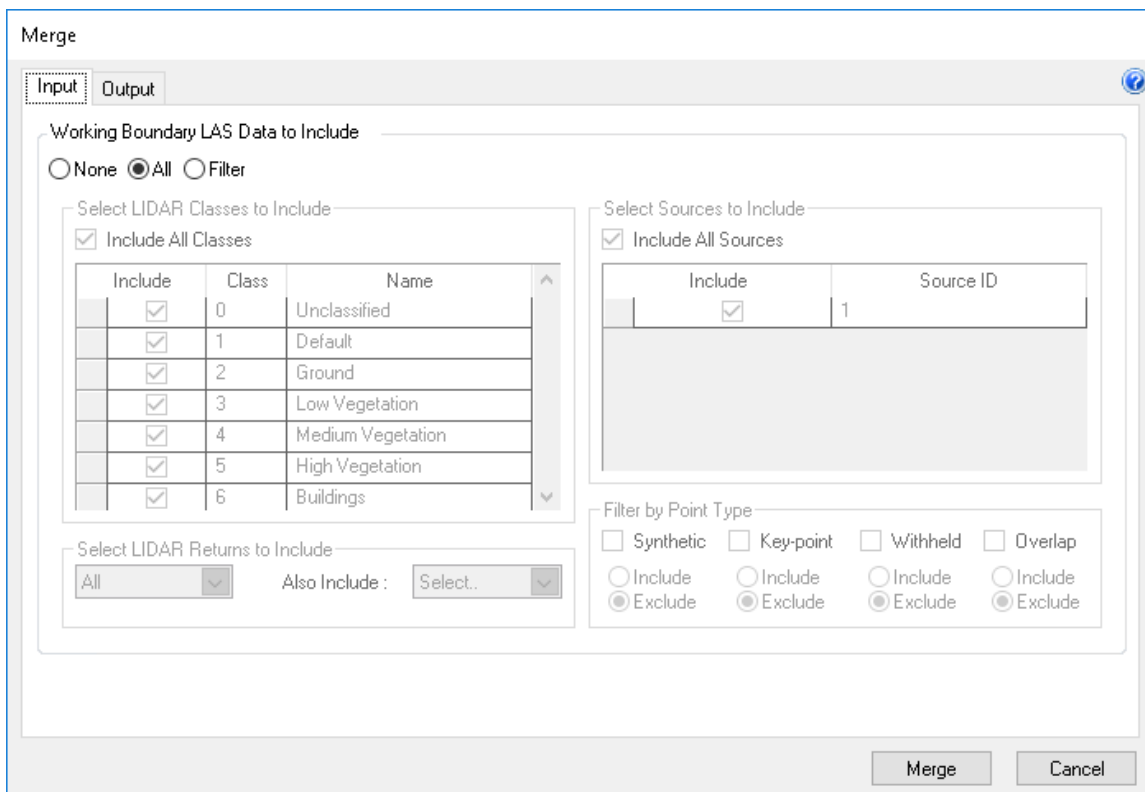

Figure 16-11 The Merge dialog
3. You will be presented with the dialog of Figure 16-11.